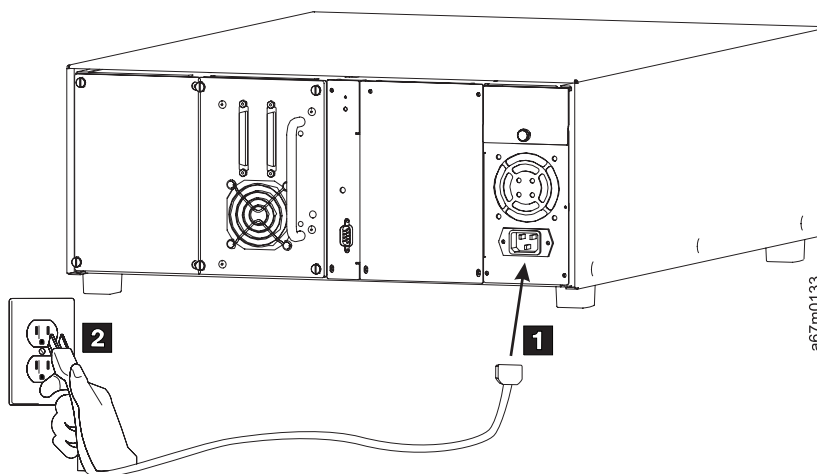

Figure 43. Connecting the power cord (US power outlet shown)
- 2. Plug the power cord (see **1** in Figure 43) into your library.
- 3. Plug the power cord from the library into a grounded electrical socket (see **2** in Figure 43).